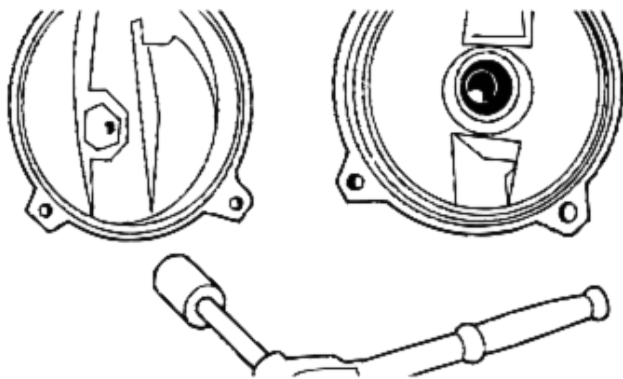

Figure 14: Remove Nozzle
8. Nozzle on 1/2 HP models can be removed from pump case with any standard 1-1/4" socket wrench with an extension (Figure 14).